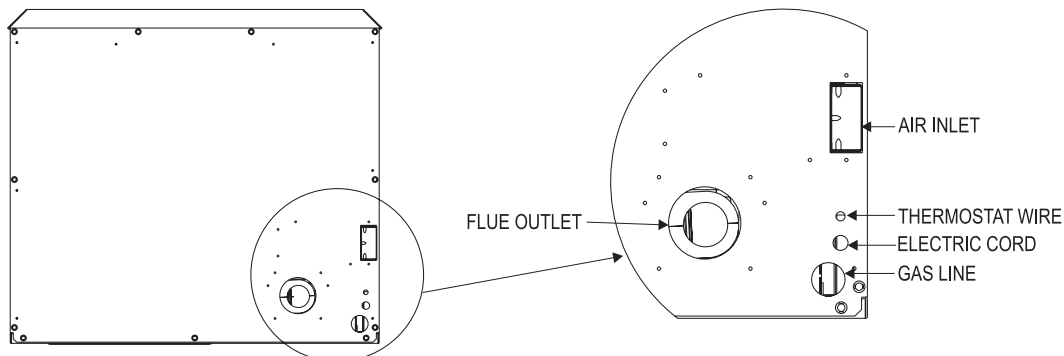
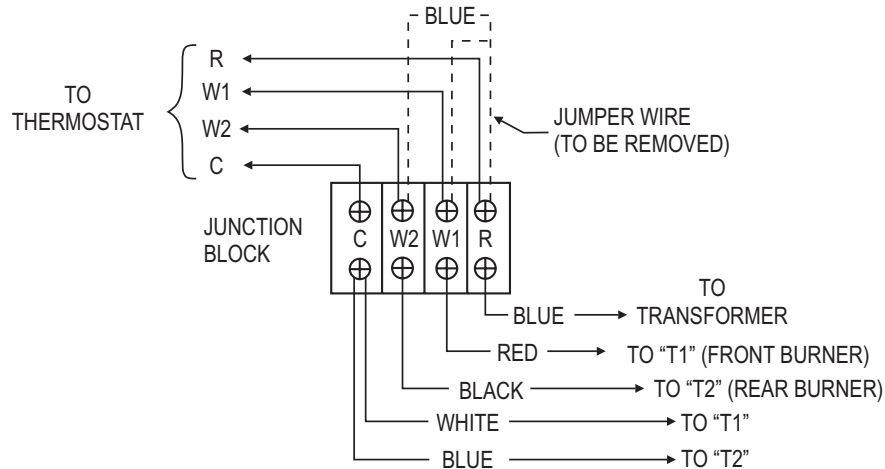

Figure 50
Figure 51
Determine mounting location of thermostat. Using standard 18 AWG wire, run four (4) strands of wire into rear of Mantis (See Figure 50) to junction block. Cut wire to correct length. Remove blue jumper wire from junction block and save for future use. Connect four (4) new thermostat wires to Mantis using schematic. See Figure 51.